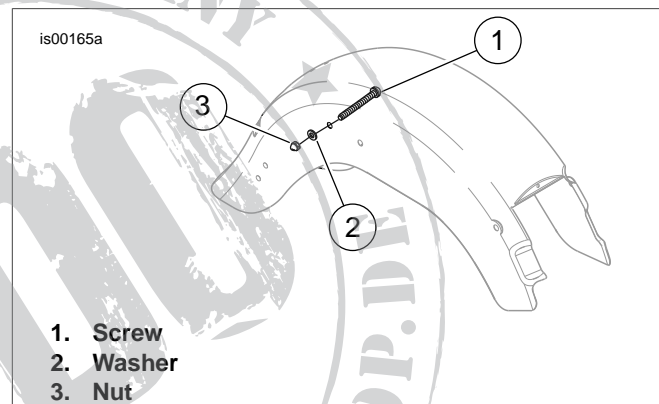

Figure 2. Install Fender Support Hardware (FLST)
3. See Figure 2. Install saddlebag using screw (from wide tire kit) (1), washer (2) and nut (3). The screws are installed from inside to outside of fender.